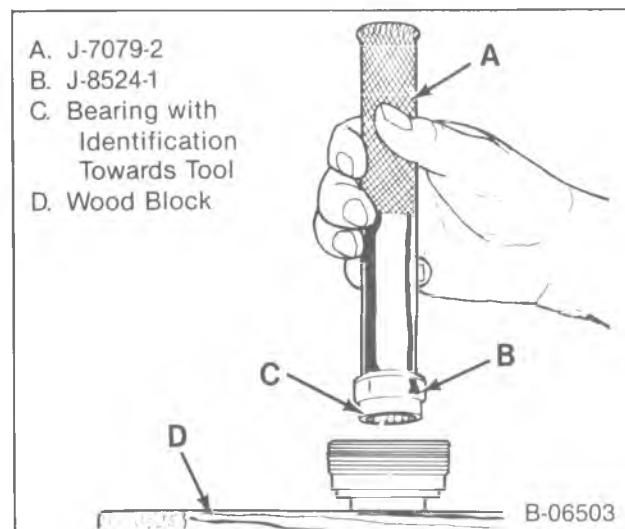
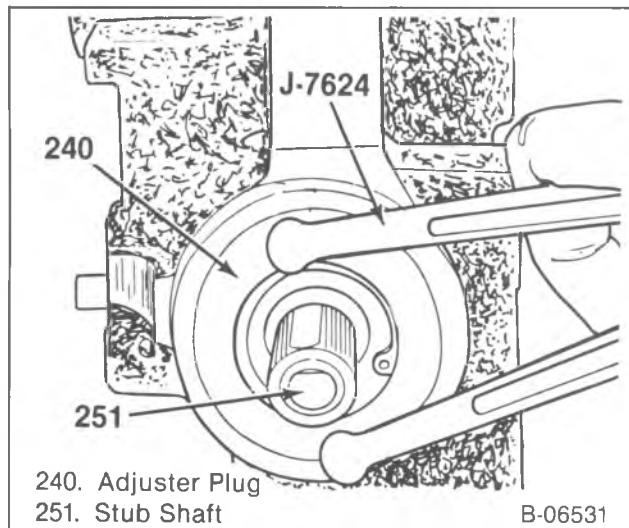

Figure 15—Installing the Needle Bearing
Figure 16—Bottoming the Adjuster Plug
8. Seal (239) on the adjuster plug (240).
9. Needle bearing (241) in the adjuster plug. Use J 8524-1 and J 7079-2 (figure 15).
10. Seal (242), washer (243), and retaining ring (244) in the adjuster plug (240).
- The retainer projections must not extend beyond the washer (243) when the retainer ring (244) is seated. The washer must be free to rotate.
- 12. Adjuster plug (240) into the steering gear housing. Use spanner wrench J 7624.
**Adjust (Figures 16 through 23)**
the left until the plug and bearing (237) are firmly bottomed – about 27 N·m (20 ft. lbs.) (figure 16).